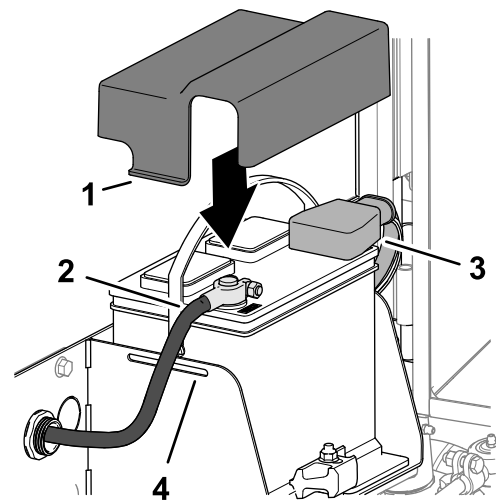

Figure 132
1. Install the positive battery cable (red) to the positive (+) battery post (Figure 132).